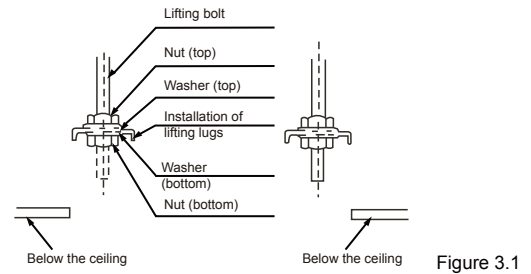

Figure 3.1
1. Adjust the positions of the nuts, the size of the gap between the washer (bottom) and the ceiling should be based on the actual construction works. See Figure 3.1.